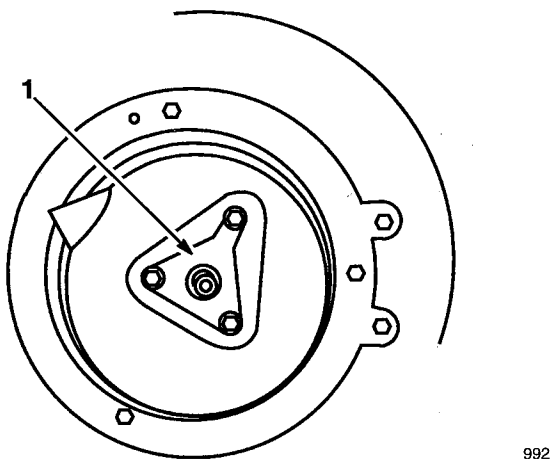

Figure 37
10. Install muffler and crankshaft support to engine mounting plate (Fig. 37).